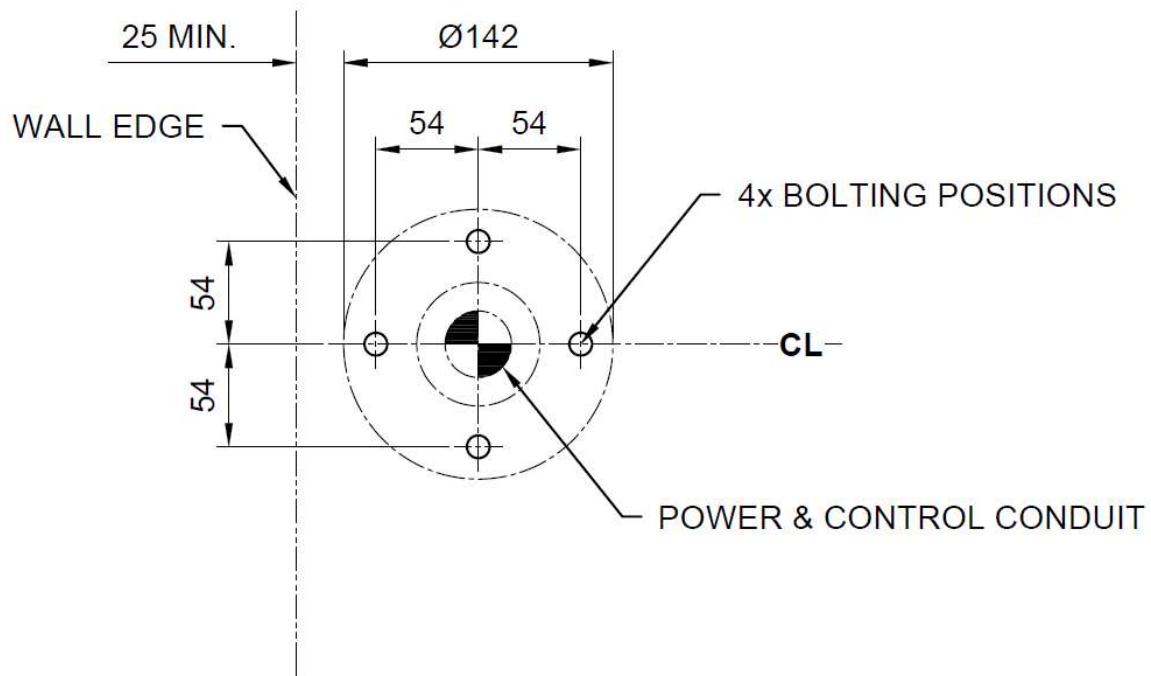

Figure 6: Detail of Bottom Bracket on floor
- 2.4. Place the base bracket on the floor over the conduit point as shown in *Figure 6: Detail of Bottom Bracket on floor*. Mark the hole positions for the holding down bolts as shown.